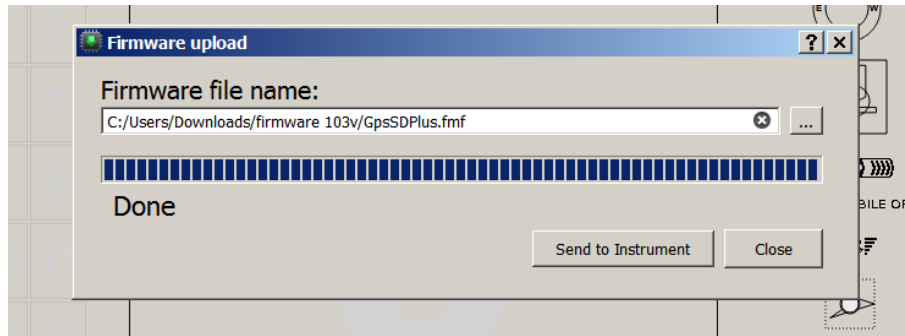

Figure 8.2: Firmware Update Done
6. When the process is finish the application shows a message saying *complete* (see Figure 8.2). Disconnect the USB cable and the LIVE SD will start to work.